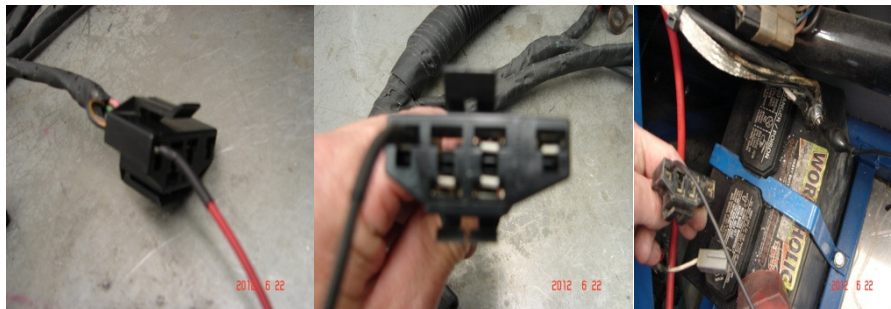

Figure 1 / 1a / 1b -ECC test plug pin to ground
1. ECC Test Plug: Looking at the open of the test plug with widest flat surface up. Insert a jumper wire in the upper far left pin location (most cases this will be a black wire with an orange tracer) Figure 1 / 1a / 1b Attach loose end of the jumper wire to ground. Verify the jumper is installed correctly. Turn ignition switch on and then Master Switch to run the fuel pump continuously. The fuel pump should run continuously until the master is turned off. If it doesn't re-check the jumper wire.